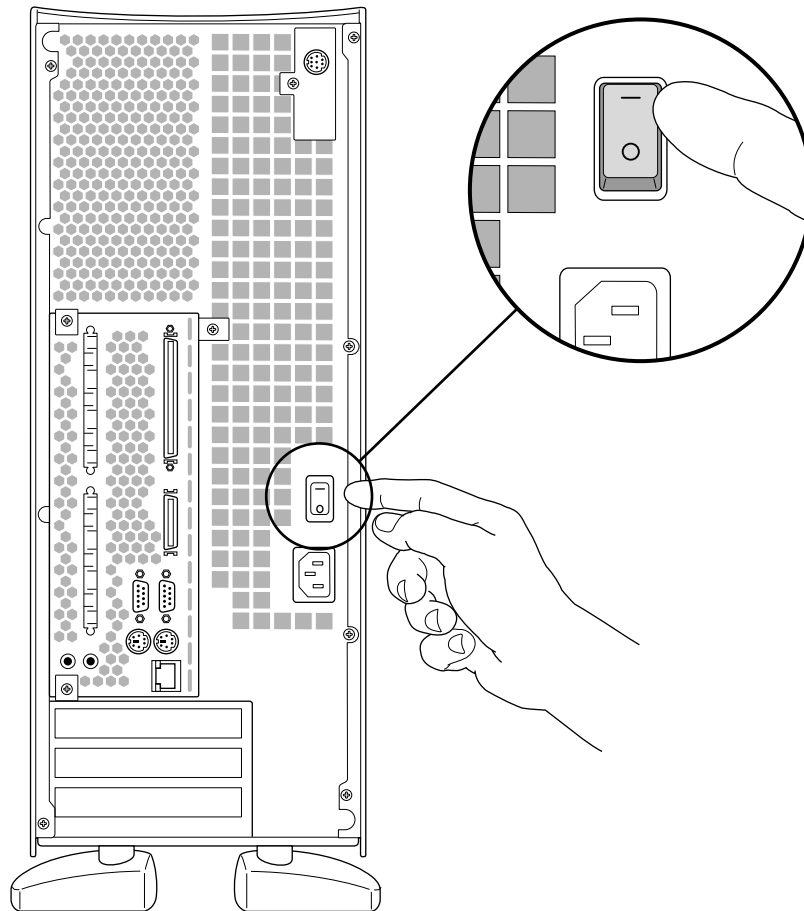

Figure 2-23 Turning On the Master Power Switch
1. At the rear of the system, turn the master power switch on, as shown in Figure 2-23.